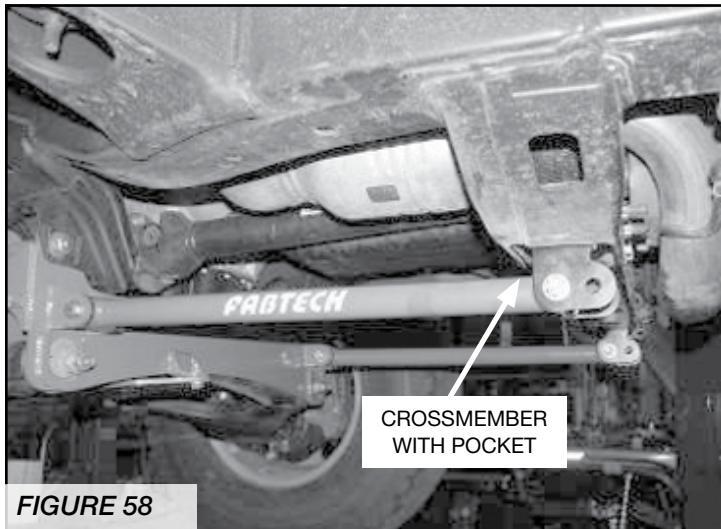

FIGURE 58
39. Locate FT70011 Impact strut tubes and FT1044 Bushing kit. Install the bushings into the strut tubes. Attach the strut tubes to the rear Fabtech crossmember then to the strut brackets on the transmission crossmember with the supplied 7/16" x 3 1/2" bolts and hardware. Torque to 50 ft. lbs. **SEE FIGURE 58**